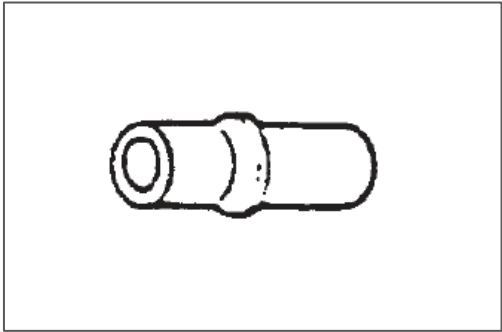
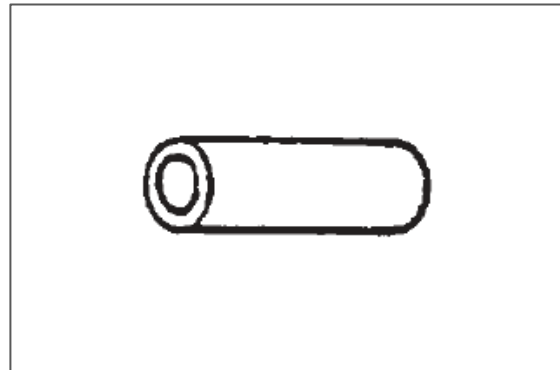

Figure 2. P/N 10-382812 Rubber Insulator
Figure 3. 10-157212 Phenolic Bushing
The magneto retard terminal insulator may be either phenolic or soft rubber. The soft rubber insulator is generally used in pressurized magnetos. It forms a tight seal but the compressed insulator may hold the wire insulation and prevent the lead from seating on the terminal and making proper electrical contact. The phenolic insulator will not trap the wire insulation so the lead will make better contact with the terminal. The aircraft with the serial numbers listed above were assembled with a soft rubber insulator (Figure 2). Enstrom recommends checking for this rubber insulator and, if installed, replacing with a phenolic bushing to allow the lead to seat properly.
6.6 Slide the rubber P-lead insulator (P/N 10-382812) (Figure 2) off of the wire and slide the phenolic insulated bushing (P/N 10-157212) (Figure 3) onto the wire.